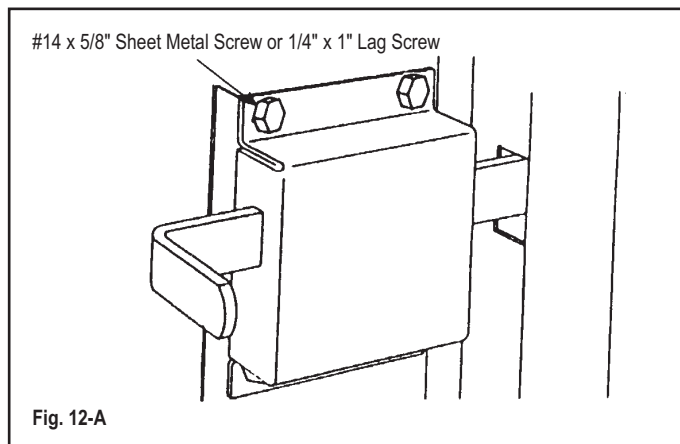

Fig. 12-A
The inside slide bolt is installed on the end stile of the second section using (4) #14 x 5/8" hex head sheet metal screws (steel doors) or (4) 1/4" x 1" lag screws (wood doors). (Fig. 12-A)